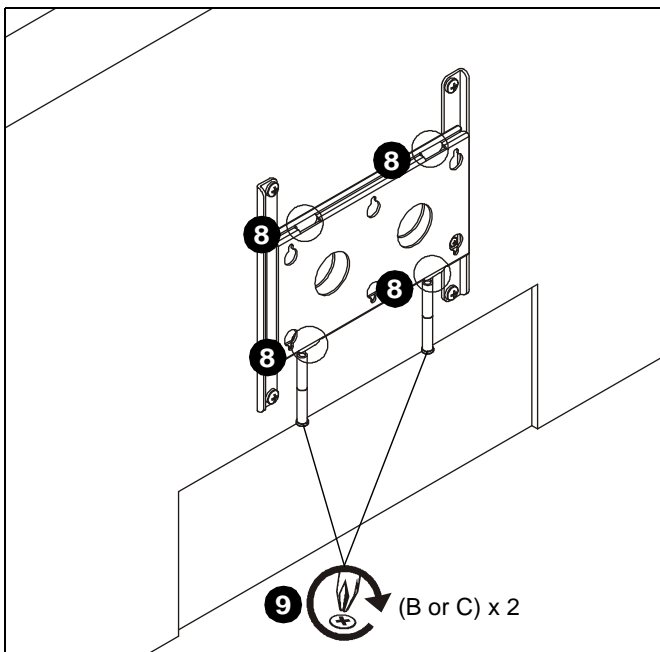

Figure 12
8. Ensure all four tabs on front plate are securely installed into the corresponding slots on wall bracket. (See Figure 12)
9. Tighten two screws (B or C) to secure front plate to wall bracket. (See Figure 12)